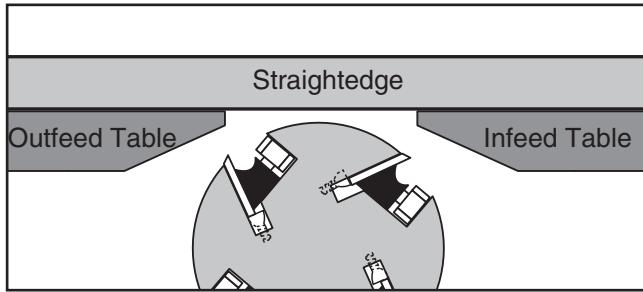

Figure 52. Infeed and outfeed tables set evenly (knife-style cutterhead shown).
- Place straightedge halfway across infeed and outfeed tables, and adjust infeed table even with outfeed table, as shown in **Figure 52**.